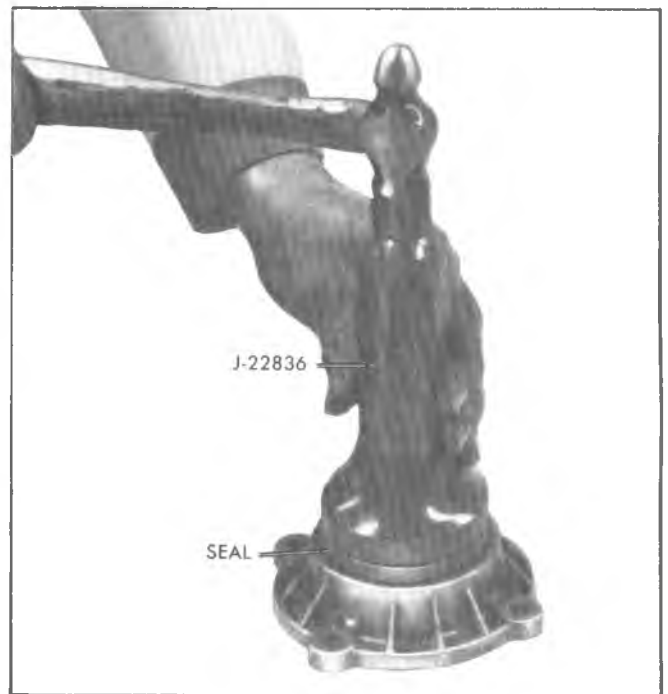

Fig. 16C--Installing Front Output Bearing Retainer Seal
5. Install new seal in bearing retainer using Tool J-22836 (Fig. 16C) and install the front output bearing and retainer in the case.